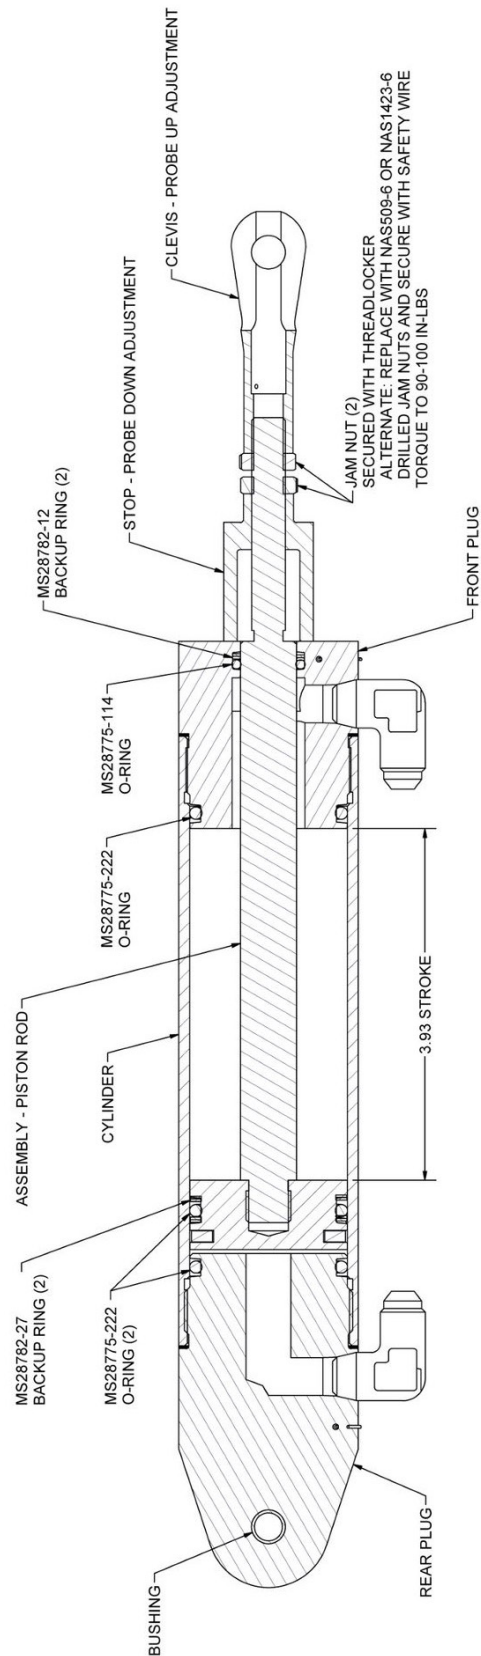
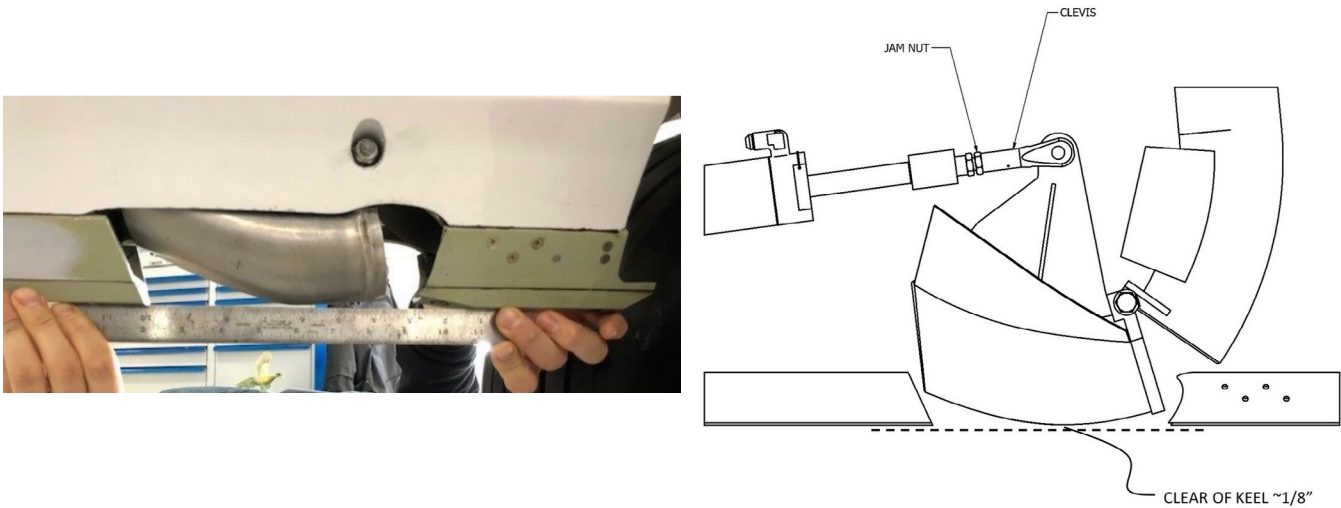

FIGURE 4.2A ASSEMBLY – CYLINDER PROBE JACK
FIGURE 4.2B – PROBE UP POSITION ADJUSTMENT
The lower probe assembly is set at the factory for full open and close positions. Any adjustment necessary to the probe is accomplished by adjusting the probe jack cylinder. Figure 4.2A shows a cross section of the cylinder. Figures 4.2B and 4.2C illustrate the setting of the up and down positions, respectively. Set the up position first. Begin by extending the cylinder shaft with hydraulic pressure to ensure full extension. While extended, the clevis should bolt to the probe when the bottom of the probe is clear of the float keel by approximately 1/8". Turn the clevis as necessary to meet this condition. Once the up position is set, the down position is set by adjusting the stop collar. The stop collar should meet the cylinder body when the top/inner surface of the probe is flush with the float keel. The hydraulic lines may be disconnected to facilitate adjusting and checking the down position by hand. Apply Loctite 290 (green) threadlocker or equivalent to both jam nuts and torque to 90-100 in-lbs. Jam nuts may alternatively be NAS509 or NAS1423 drilled jam nuts to be secured with safety wire After adjustment reconnect hydraulic lines as needed and cycle probe for proper operation. Check if probe up and down position lights are operating properly.
Figure 4.2A shows a cross section of the hydraulic probe cylinder. Replace “O” rings if cylinder shows signs of leaking. Check for security of the jam nuts against the clevis and stop collar. If needed, apply Loctite 290 (green) threadlocker or equivalent and torque jam nuts to 90-100 in-lbs. Jam nuts may alternatively be NAS509 or NAS423 drilled jam nuts to be secured with safety wire. A gasket is between upper probe and internal tube at connecting clamp. Replace if necessary. Check condition of connecting hose and clamps above float deck (2) each side. Inside of aircraft tank on each inlet tube there is a rubber flapper valve or a platypus type valve. Check if valve is closing tight and condition of valve. Replace if necessary.